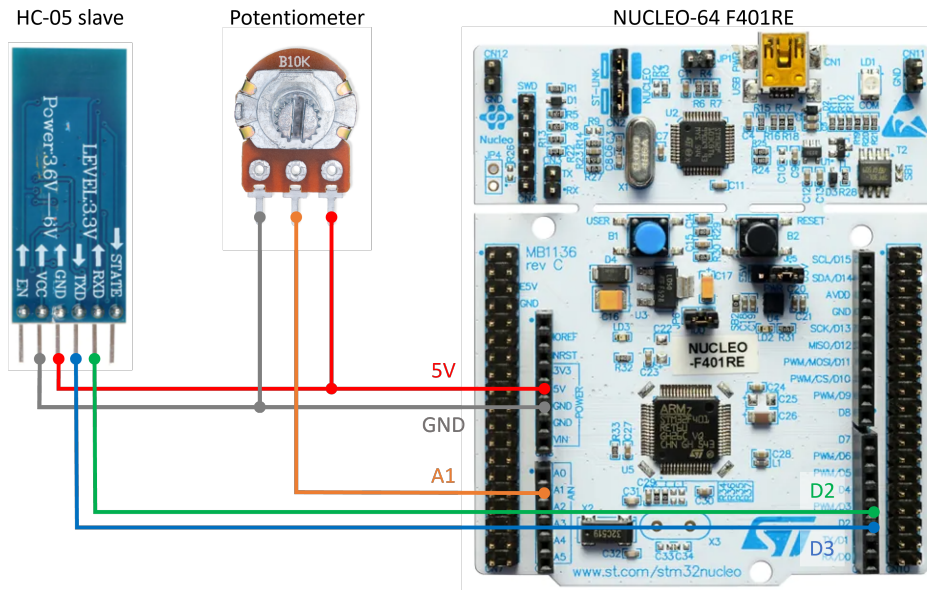

Figure 2: Board and HC-05 module connections for the minimal working example.
1. Connect the HC-05 Bluetooth module and potentiometer to the STM32 board as shown in Fig. 2.